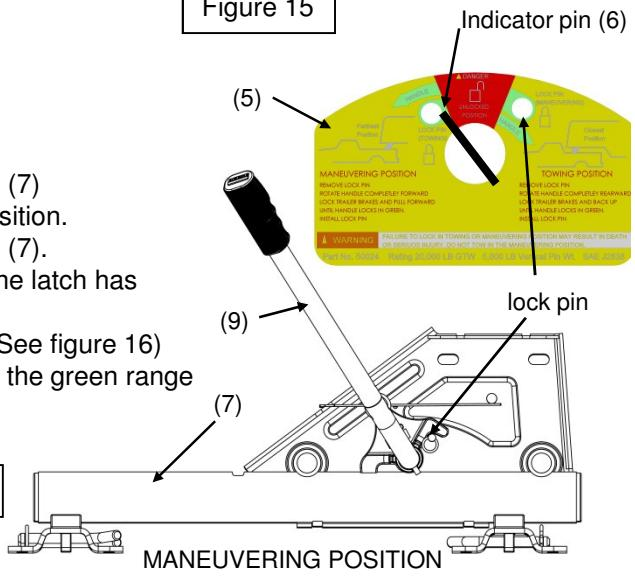

Figure 16
5. Return to truck. Release emergency brake. Manually engage trailer brake and pull truck forward until REESE™ FIFTH Wheel Slider stops and the latches engage in maneuvering position (see Figure 16).
- C. If Slider does not move, latch has engaged tubes (7) and Slider should be engaged in maneuvering position.
- D. If Slider does move, latch has not engaged tubes (7).
- DO NOT TOW!!** Repeat steps 1 - 6 above until the latch has engaged the tubes (7).
- E. Install lock pin completely in maneuvering hole. (See figure 16)
7. Examine warning label (5). Indicator pin (6) should now be over the green range on the left side of the warning label (5) (see Figure 16).